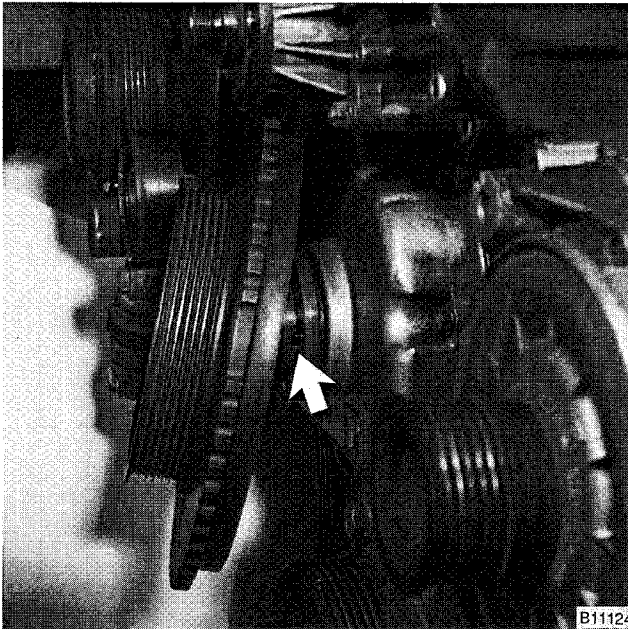

Fig. 22. Vibration damper with drive belt pulley being removed. Note hub locating dowel (arrow).
15. Remove vibration damper mounting bolts and remove vibration damper and pulley. See Fig. 22.